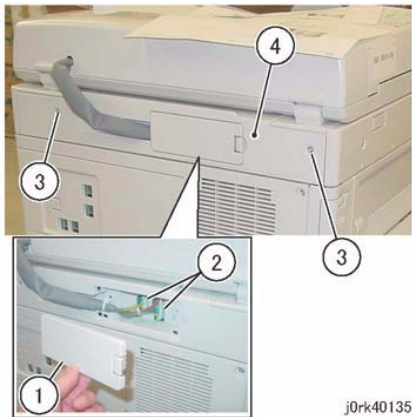

Figure 1 IIT Rear Cover Removal
2. Remove the IIT Rear Cover. (Figure 1)